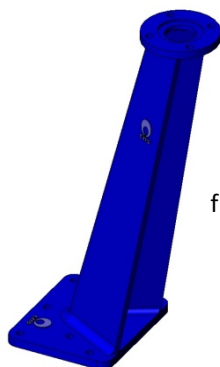

fig. 9
- Leaning floor stand (fig. 9)